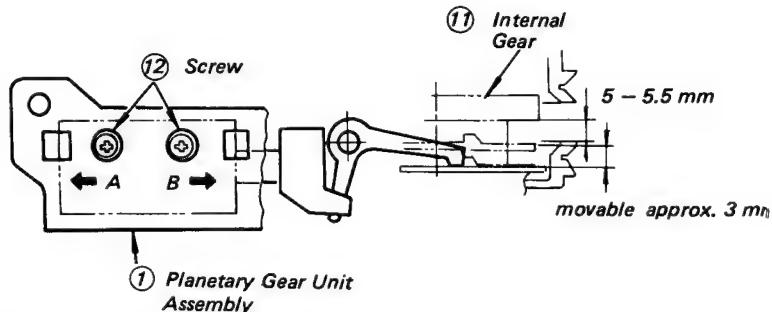

Fig. 5-80 Cue/Review Solenoid Adjustment
2. Slip the reel belt ⑨ off for removal.
3. Slip the reel belt ⑩ off for removal from the Fast-Forward clutch assembly only, but remain the reel belt ⑩ held on the output pulley ⑧.
4. Remove the two screws ⑤ holding the planetary gear unit assembly ①.
5. Loosen the two screws ⑫ holding the cue/review solenoid ④.
6. Slide the cue/review solenoid ④ in the direction B ( $\rightarrow$ ).
7. Set the VTR in the cue (or review) mode of operation for energizing the cue/solenoid ④ to extract the plunger.
8. Insert a bladed screwdriver in the rectangular hole, and gradually move the solenoid in the direction A ( $\leftarrow$ ) until the internal gear ⑪ is positioned as shown in Fig. 5-80.
9. Tighten the screws ⑫.